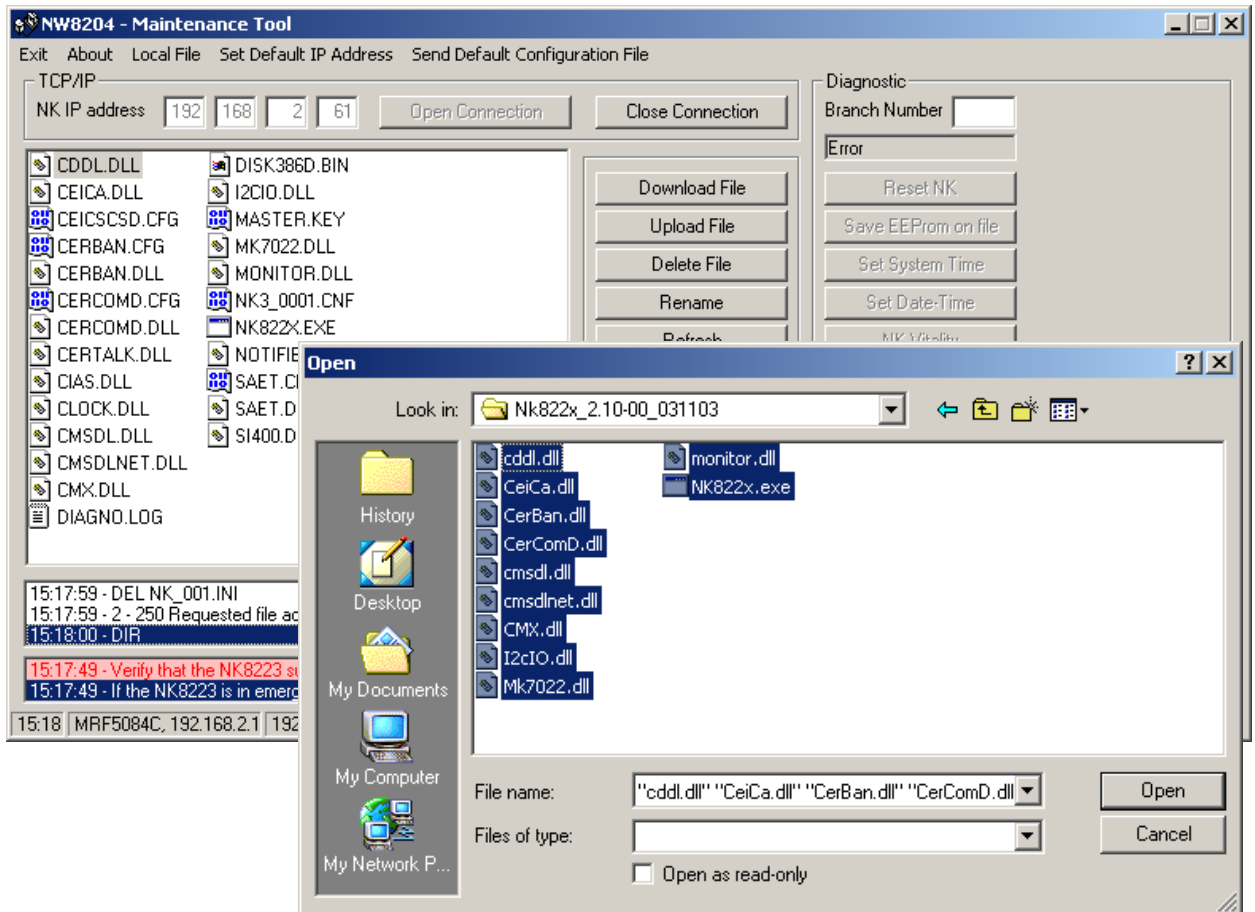

Fig 2. Selecting new firmware files
- Browsing on the files directories, locate and select the files listed above and select “open” to download them to the NK unit (Fig 2).